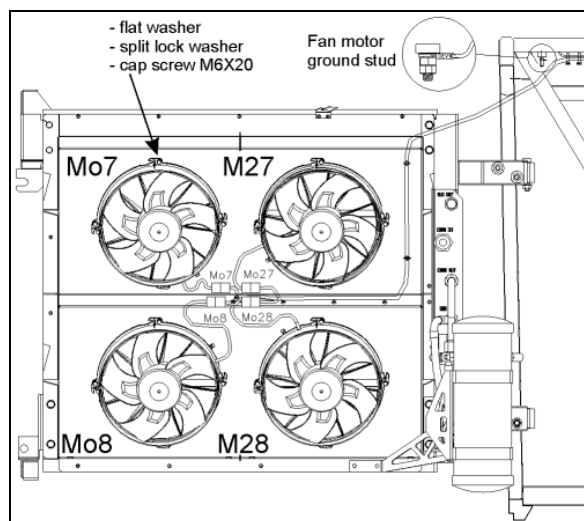

FIGURE 39: CONDENSER FANS 22363
2. Unplug the fan harness connector (Figure 39).